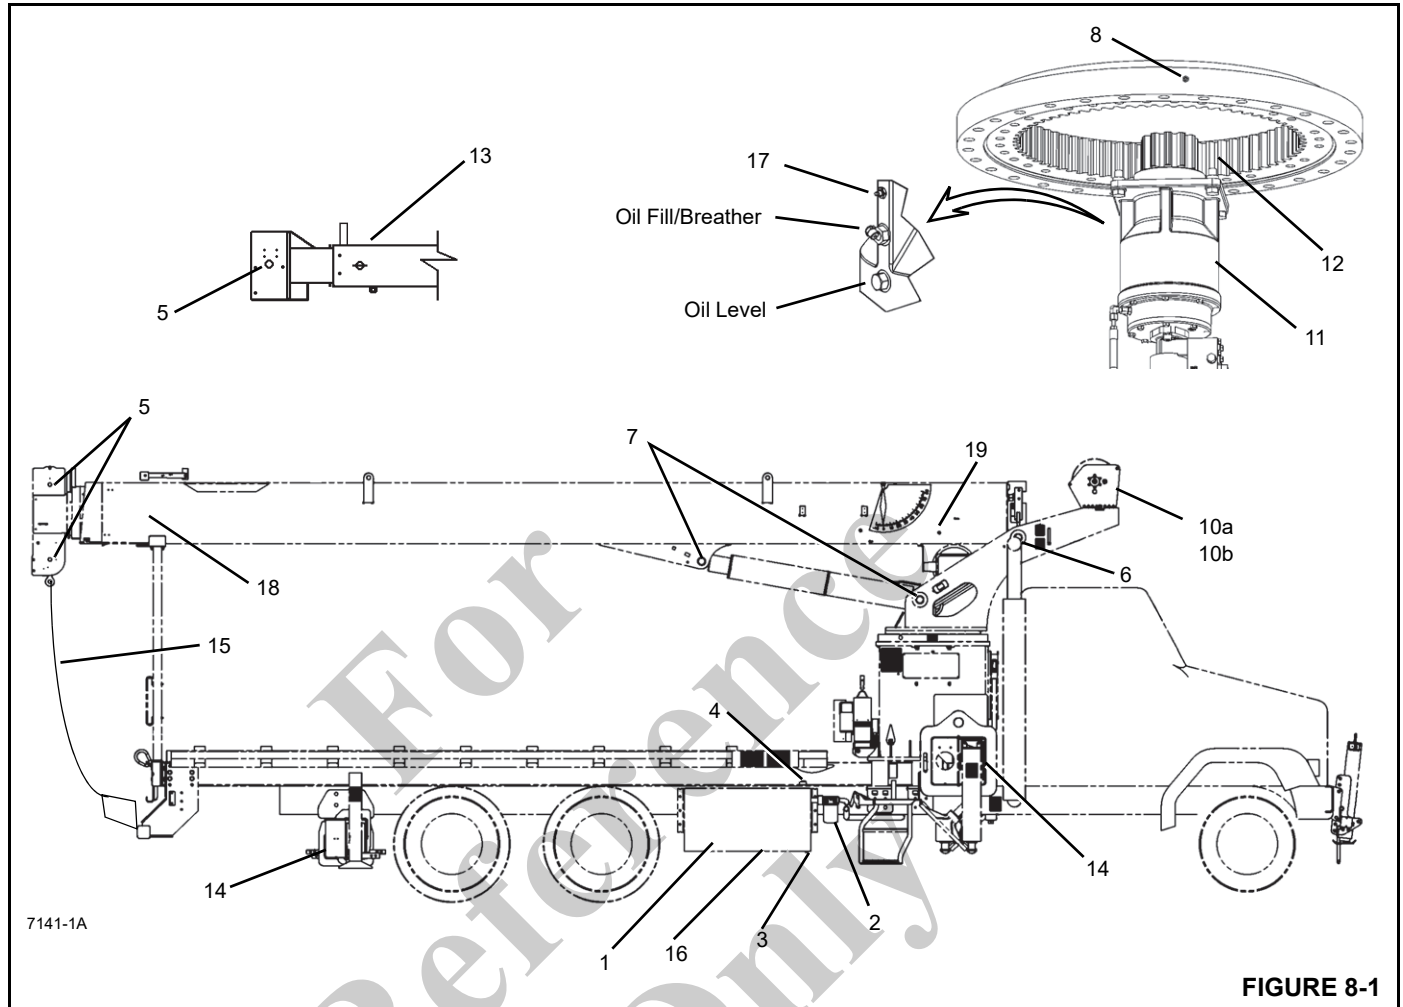

FIGURE 8-1
The lubrication points, type, interval, amount, and application methods are describe in the table on page 8-5. Each lubrication point is numbered, and this number corresponds to the index number shown on the Lubrication Chart (Figure 8-1). Lube description and symbols are listed in tables below.
The following describe the lubrication points and gives the lube type, lube interval, lube amount, and application of each. Each lubrication point is numbered, and this number corresponds to the index number shown on the Lubrication Chart (Figure 8-1). Lube description and symbols are found in tables below.
2. Lubricate the pin for the extend cable sheaves (18) (Figure 8-1) until a small amount of grease extrudes from the pin. From in front of the boom, look back through the sheave case at the pin to determine the amount of grease.